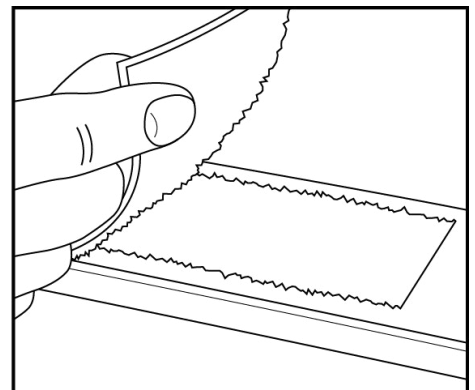

Fig.33
4. Reposition the Awnbrella arm back into the hanger blocks and roller tube, then use alcohol to clean the awning fabric directly opposite the black Velcro patch on the back of the Awnbrella arm. Attach a white Velcro patch to the black Velcro patch on the Awnbrella arm (Fig.33).